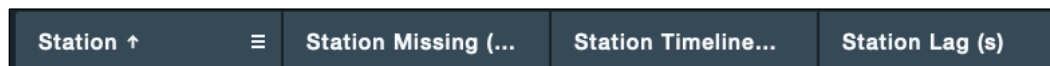

Figure 20. A Close-up of the Bar Symbol Used to Pull Up Filter Menu.
- 5) Station rows can be filtered to show one or more desired stations by hovering to the far right of the Station column title to bring up a bar menu button (Figure 20).